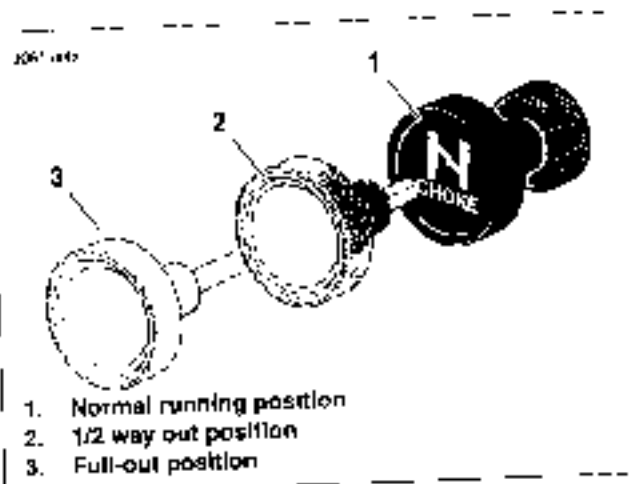

Figure 4-1. Enrichener Operation
See Figure 4-1. **BE SURE THROTTLE IS CLOSED** Pull enrichener knob to full-out position (3). Turn the ignition switch ON and press starter switch to operate the electric starter.
1. After initial 15-30 second warm-up, ride for 3 minutes or 2 miles (3.2 km) with the enrichener knob in full-out position (3).
2. After 3 minutes or 2 miles (3.2 km), push the enrichener knob in to the 1/2 way position (2). Ride 2 minutes or 2 miles (3.2 km).
3. After 2 minutes or 2 miles (3.2 km), push the enrichener knob fully in to the normal running position (1).
1. After initial 15-30 second warm-up, ride for 1 minute or 0.5 mile (0.8 km) with the enrichener knob in full-out position (3).
2. After 1 minute or 0.5 mile (0.8 km), push the enrichener knob in to the 1/2 way position (2). Ride 1 minute or 0.5 mile (0.8 km).
3. After 1 minute or 0.5 mile (0.8 km), push the enrichener knob fully in to the normal running position (1).